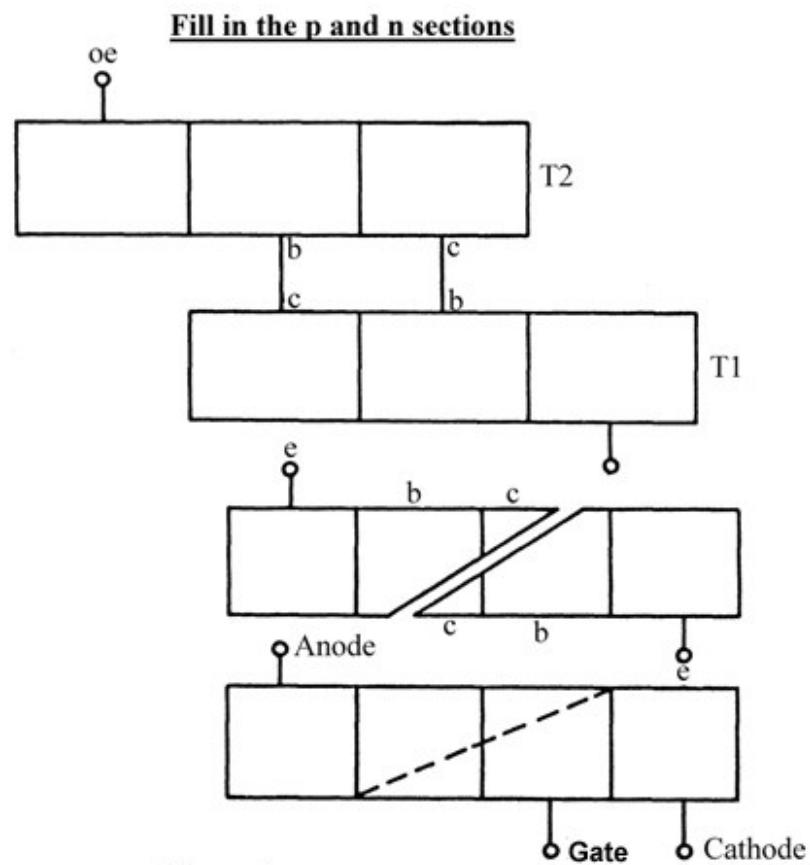

Figure 4
- Fill in the p and n sections of the constructions in Fig. 4.